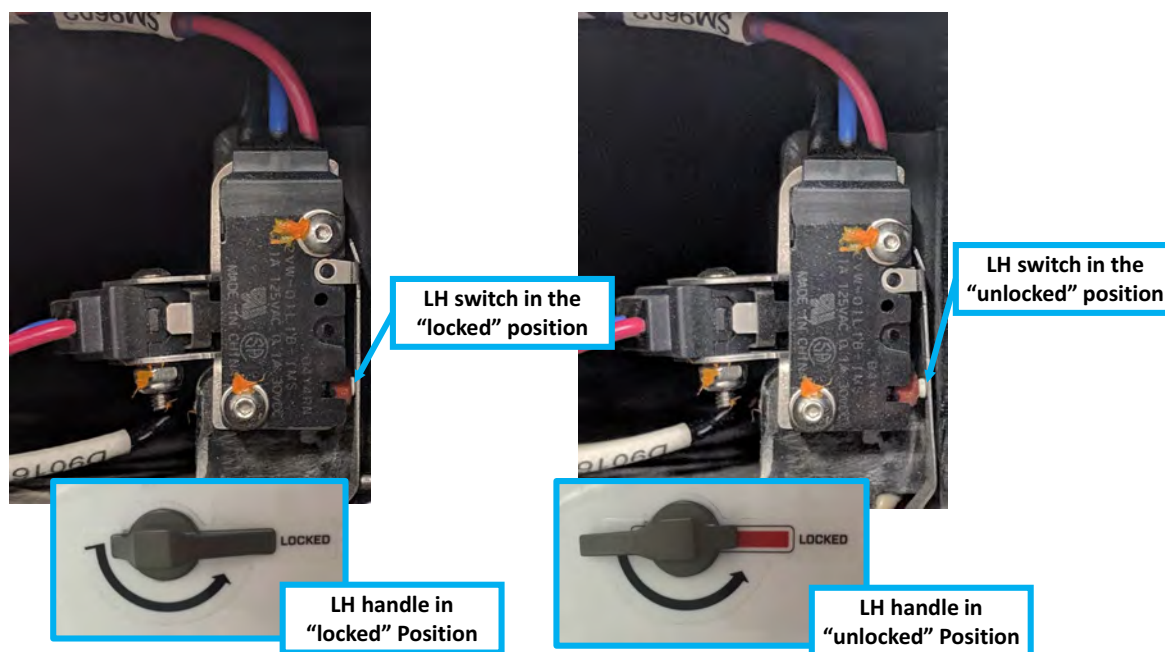

FIGURE 12-5
3. Verify the wing tip lock switch installation. Start with the wing tip lock in the “Unlocked” position. Rotate the lock handle to the “Locked” position. Verify the wing tip lock switch is engaged. The switch will click when it is fully engaged. Verify at the annunciator panel that “LOCK WING/TAIL” light is out. See Figure 12-5.